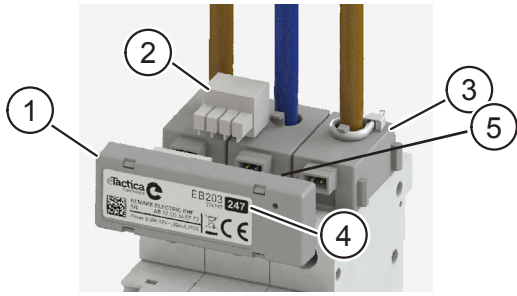

Fig. 5: Attaching the Linked Current Sensors to the Current Bar
- ▶ Attach the Current Bar (pos. 1 in Fig. 5) to the linked current sensors (pos. 3 in Fig 5) and the Molex connector (pos. 2 in Fig. 5).
- ▶ Note that all slave devices connected in series to a Modbus Master must have unique addresses (pos. 4 in Fig. 5).
A LED light (pos.5 in Fig. 5) indicates the status according to the following: